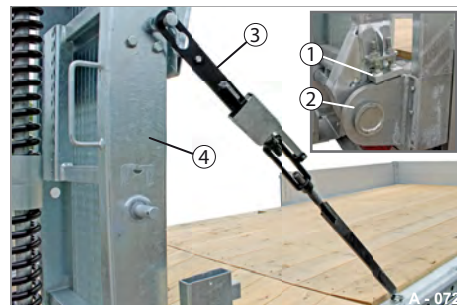

Fig. 109 Securing the drive-up ramp, two-piece
- ▶ Check that the support mount (Fig. 109/1) rests on the mounting plate (Fig. 109/2).
- ▶ Apply the securing tensioner (Fig. 109/3) - turn to page 144.
- ▶ Tighten down the ramp (Fig. 109/4) with the securing tensioner and secure the tensioner.